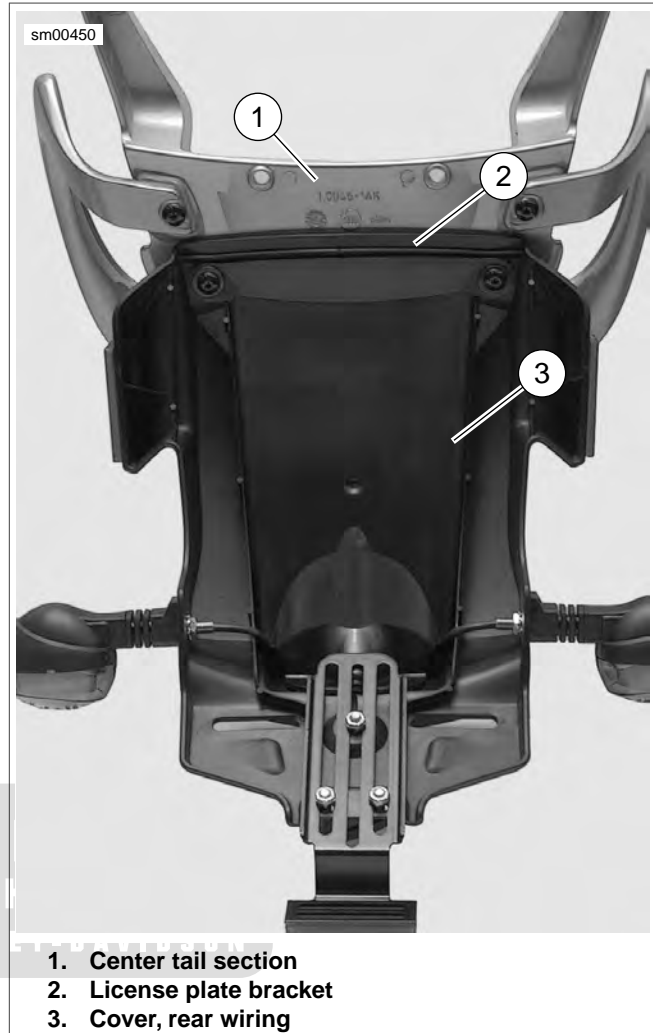

Figure 6-71. License Plate Lamp Mounting: Ulysses
2. See Figure 6-71. Remove the cover for the rear wiring (3).
4. Pull the lamp assembly away from license plate bracket (1) pulling the harness out of the license plate bracket.
1. See Figure 6-71. Install **new** license plate lamp assembly.
- a. Insert license plate lamp wiring harness through hole and route into the center tail section (2) and the license plate bracket (4).
- c. Attach lamp (3) and wire cover (5) to tail section using washers and jam nuts (1) and tighten to **12-36 in-lbs** (1.4-4 Nm).
- d. See Figure 6-71. Attach front of wire cover by installing remaining fasteners (6) and tightening to **36-48 in-lbs** (4.1-5.4 Nm).